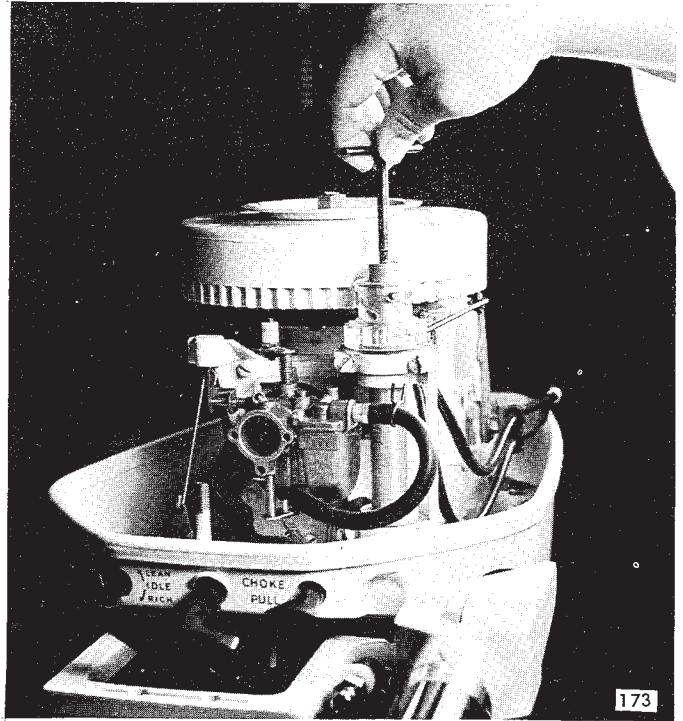

FIGURE 7—ESTABLISHING INITIAL TENSION
10. Turn Special Tool T-3139 and rewind spring assembly eight (8) turns counter-clockwise to establish the proper initial tension on rewind spring. See Figure 7.